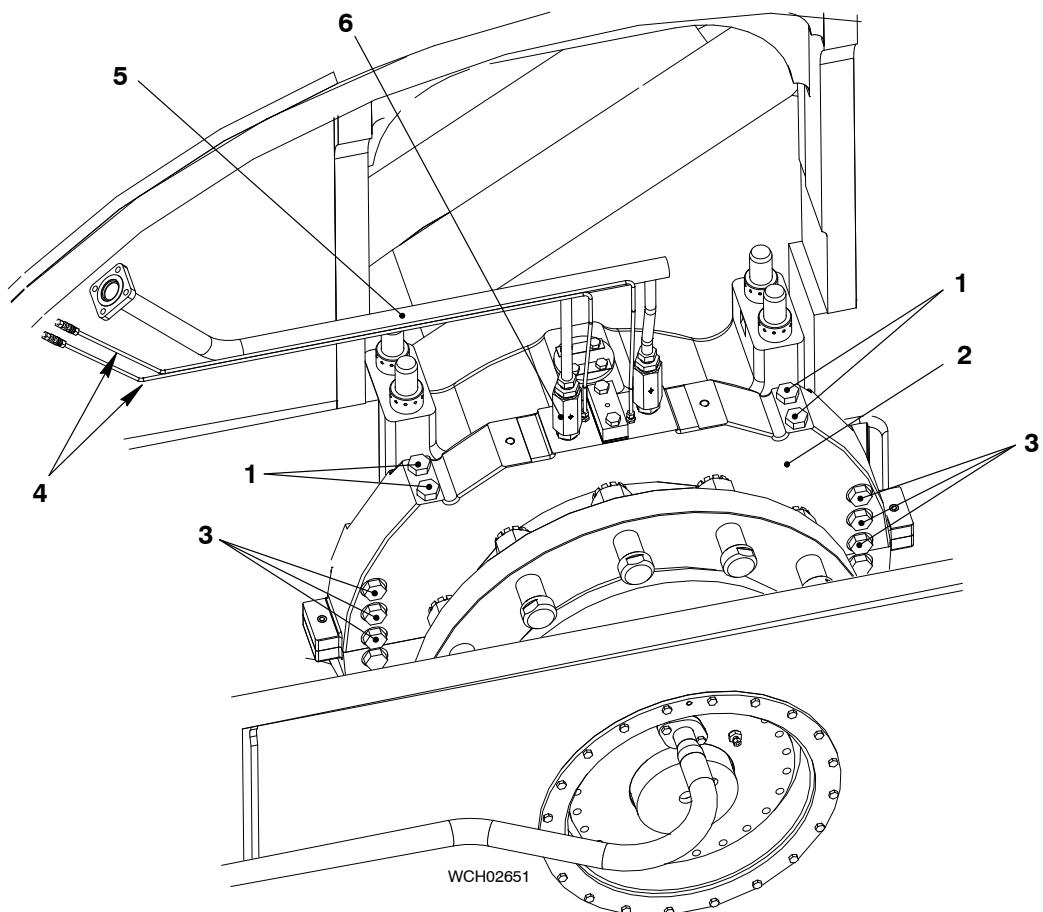

Fig. 5
- 8) Install the four M30 bolts (1, Fig. 5). Refer to 0352-2 , paragraph 1 for the applicable torque value.
- 9) Apply Molykote paste to the threads of the six M30 bolts (3).
- 10) Torque the six M30 bolts (3) to 900 Nm (40°).
- 11) Attach the two pipes (4) to the top cylinder (2).
- 12) Attach the oil inlet pipe (5) and the two non-return valves (6).